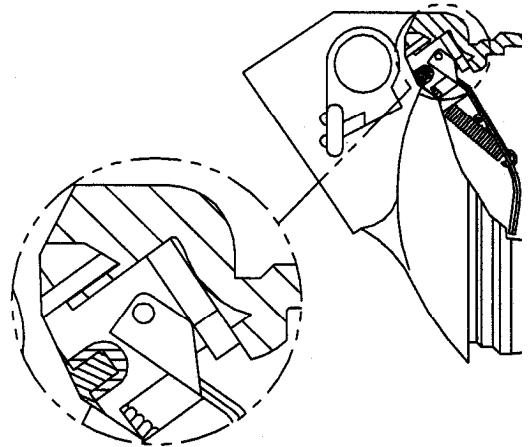

Figure 11
- Insert balanced piston unit into demand regulator body ensuring correct location onto internal location boss (Figure 11).